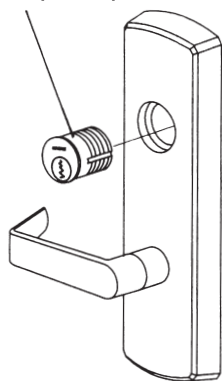

Figure 7-1
1. Loosen the cylinder retaining screw to allow the mortise cylinder to be threaded into the lock case by inserting a flat tip screwdriver in the hole on the lock case. Put the mortise cylinder into the trim and screw the cylinder into threaded hole of the lock case. The keyway must end up on the bottom of the cylinder housing. Secure the cylinder by tightening the cylinder retaining screw (see Figure 7-1).